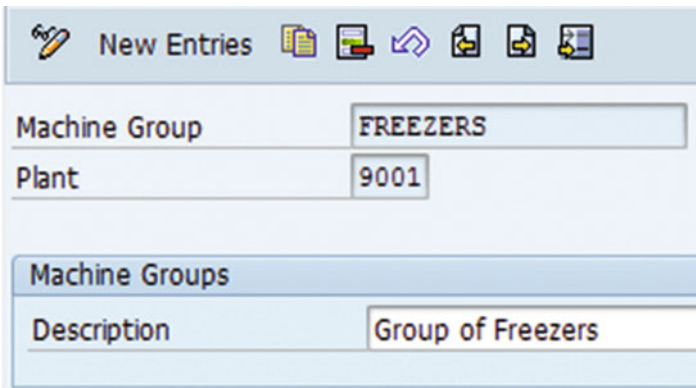

Figure 3-16. Configuration of hierarchy node classification
2. Select New Entries (refer to Figure 3-16).